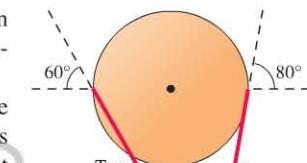

FIGURE P7.11
11. Tom and Jerry both push on the 3.00-m-diameter merry-go-round shown in Figure P7.11.